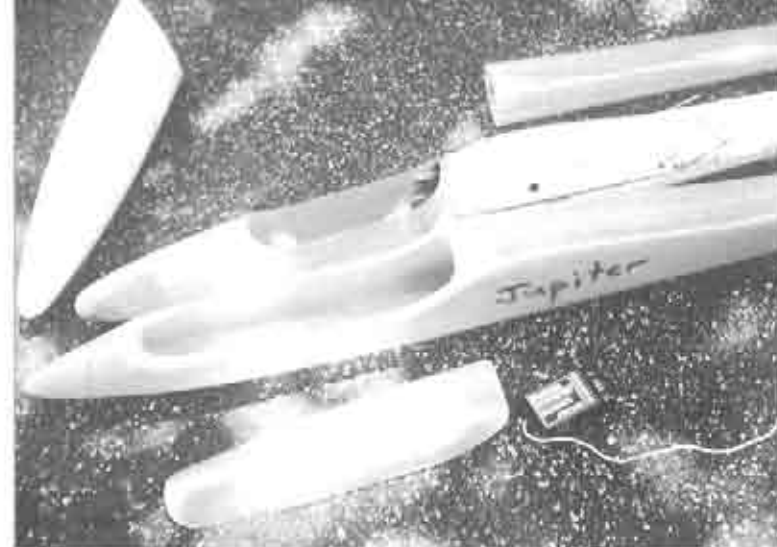

Figure 1 Jupiter & original fuselages
lage. Bob Sealy offers a replacement PULSAR fuselage, but I ordered Bob's generic open class JUPITER fuselage. This is available from NSP or directly from Bob at 1941 North Dixie Ave., Cookeville, TN 38501; (615) 526-4770. Bob ships the JUPITER in three parts: tail boom with fin, front section, and hatch (Fig. 1). Being a generic fuselage, there are no wing fillets.